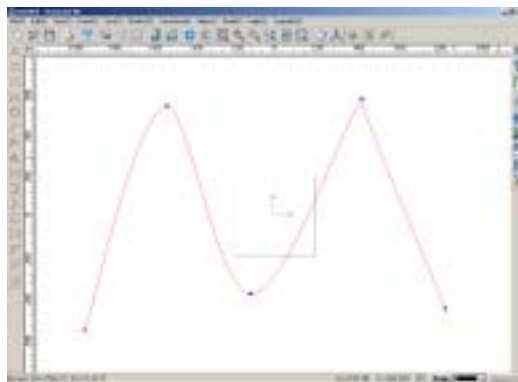

Fig. 8-5
4. Move the controlling points by dragging the mouse. (Fig. 8-5)